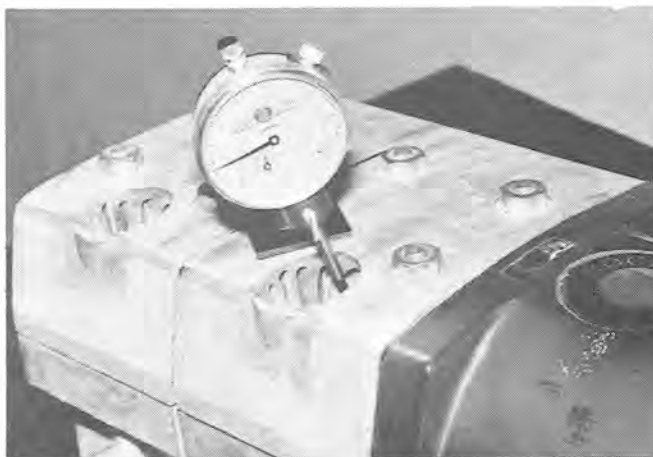

FIG. 1-68
- E. Remove dial indicator assembly and install in No. 2 cylinder (fan side). See Fig. 1-68.